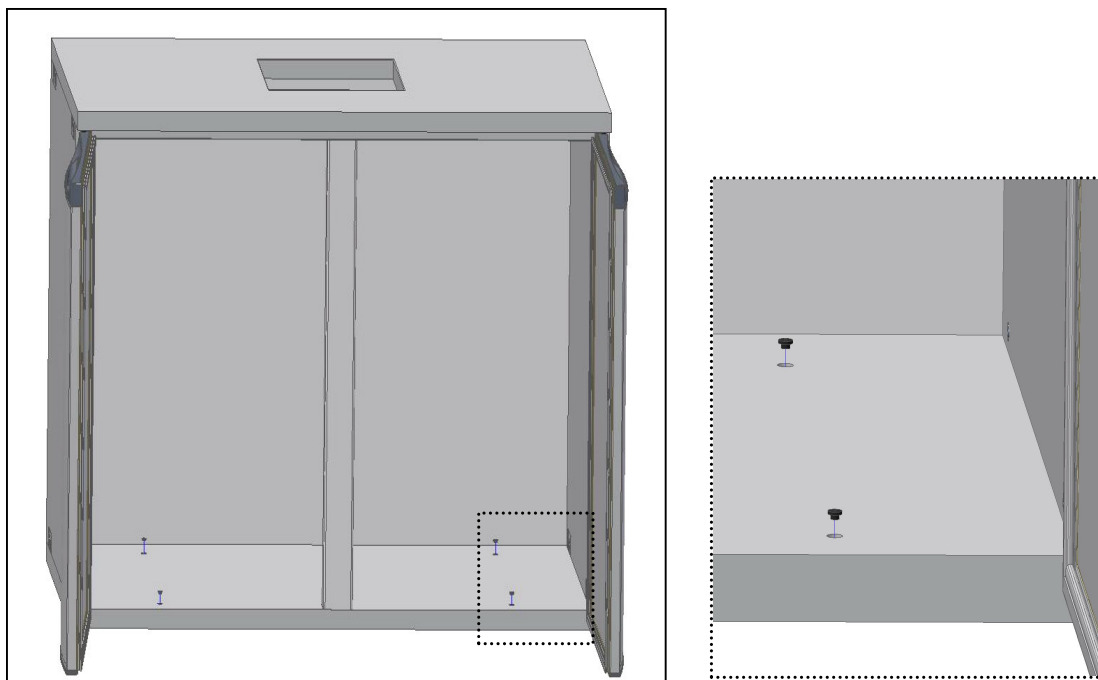

Fig. 12
- Insert the **covers** in the bottom (Fig. 12);